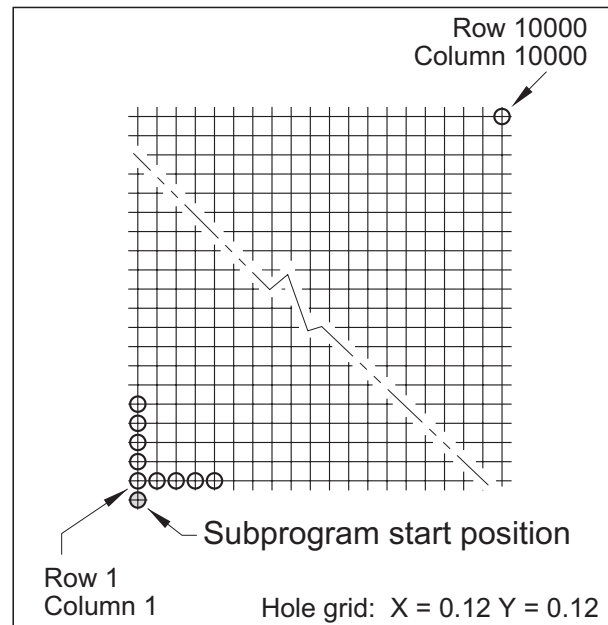

Figure 39-13
The example illustrates how one hundred million holes, (yes, *one hundred million* holes), can be spot drilled *and* drilled using a program of only 29 blocks for the two cutting tools. These 29 blocks even include program numbers and stop codes (% signs). Figure 39-13 shows a simple grid pattern of 10000 rows (X) and 10000 columns (Y).